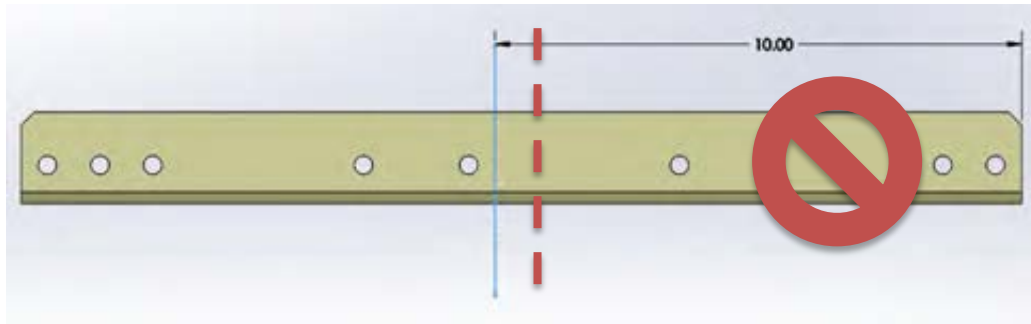

Figure 17. Support rail length for a solar panel with a tilt angle of 50-60°
- b. For optimum tilt angles of 50-60°, cut and discard the section 10 inches from the right as shown in **Figure 17**.